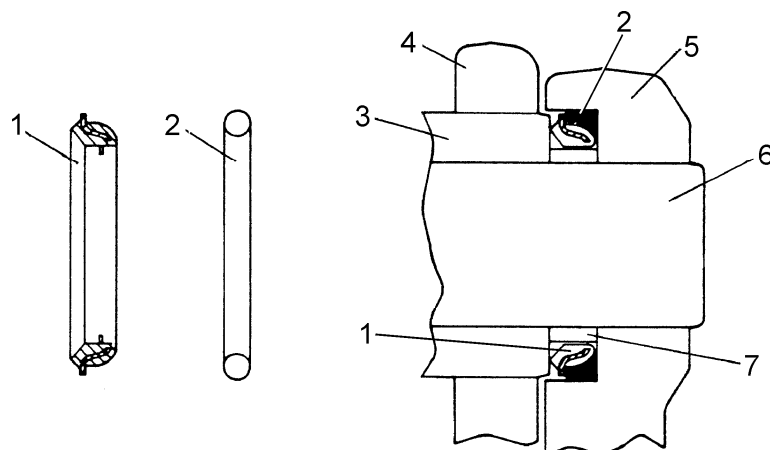

Fig. 15.15. Seal Installation
1. Clean up parts with emery cloth as required. Remove bushing adapter from bolster (2). Install bushing receiver (12) in bolster (2). Align ram and press bushing into link until it bottoms against bushing receiver (12). Reposition ram and press bushing into other link. Install new seals (Fig. 15.15) and spacers in links.